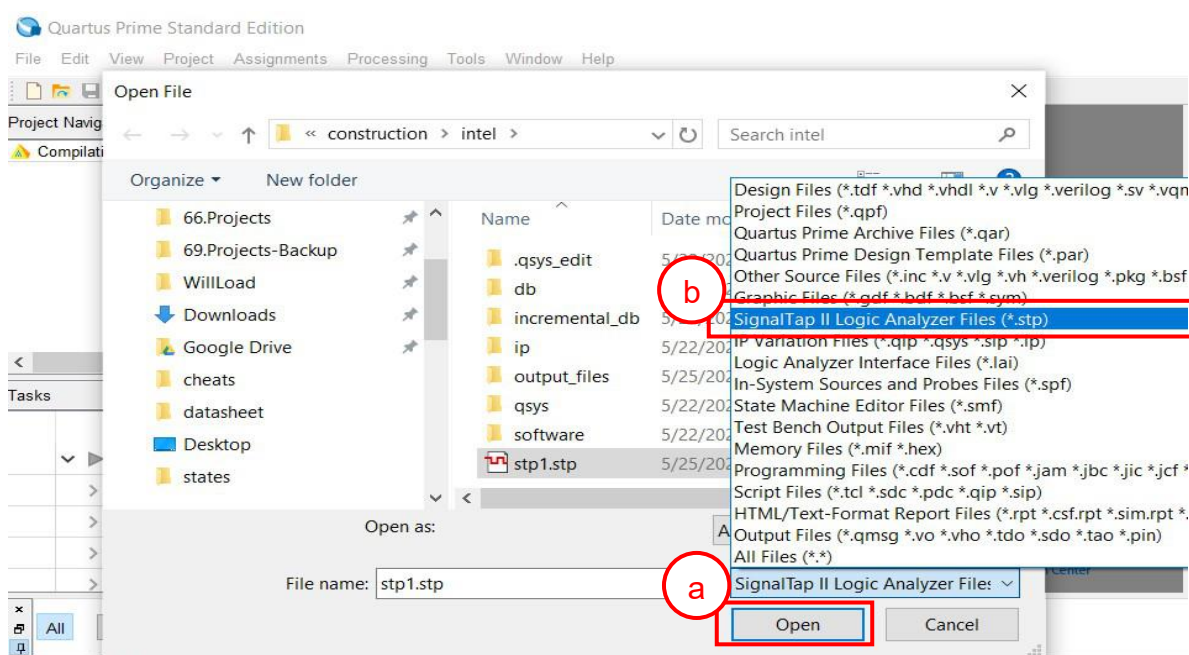

Figure 4-2 Open file "stp1.stp"
- Select "stp1.stp", then click Open button as shown in Figure 4-2